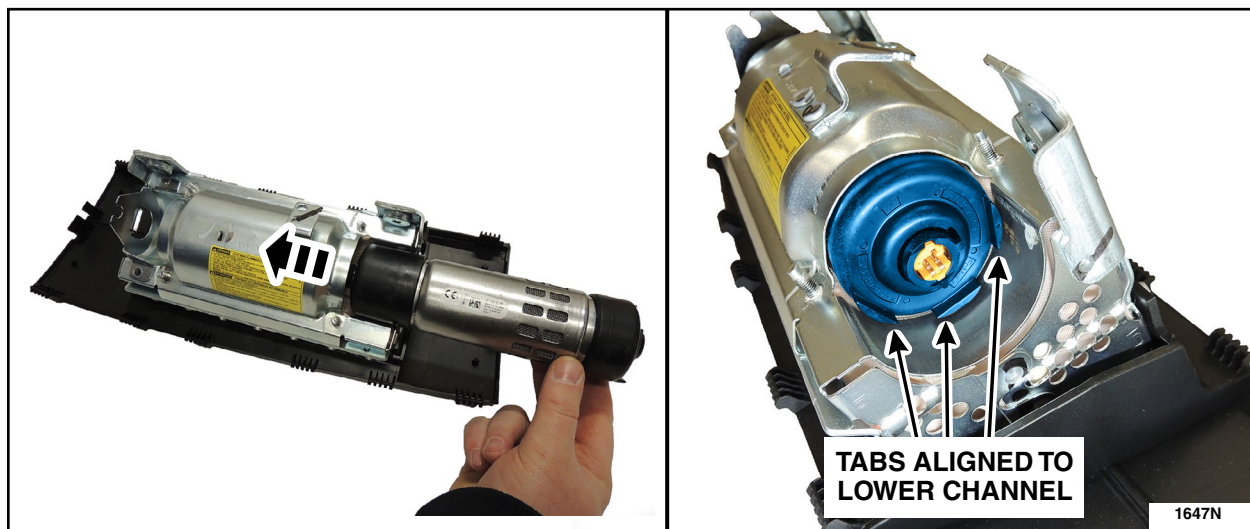

FIGURE 9
11. Install the inflator into the passenger airbag assembly with the orange connector end facing out. Align the three tabs on the cap nearest the inflator retaining bracket with the airbag module lower channel (facing down). See Figure 9.